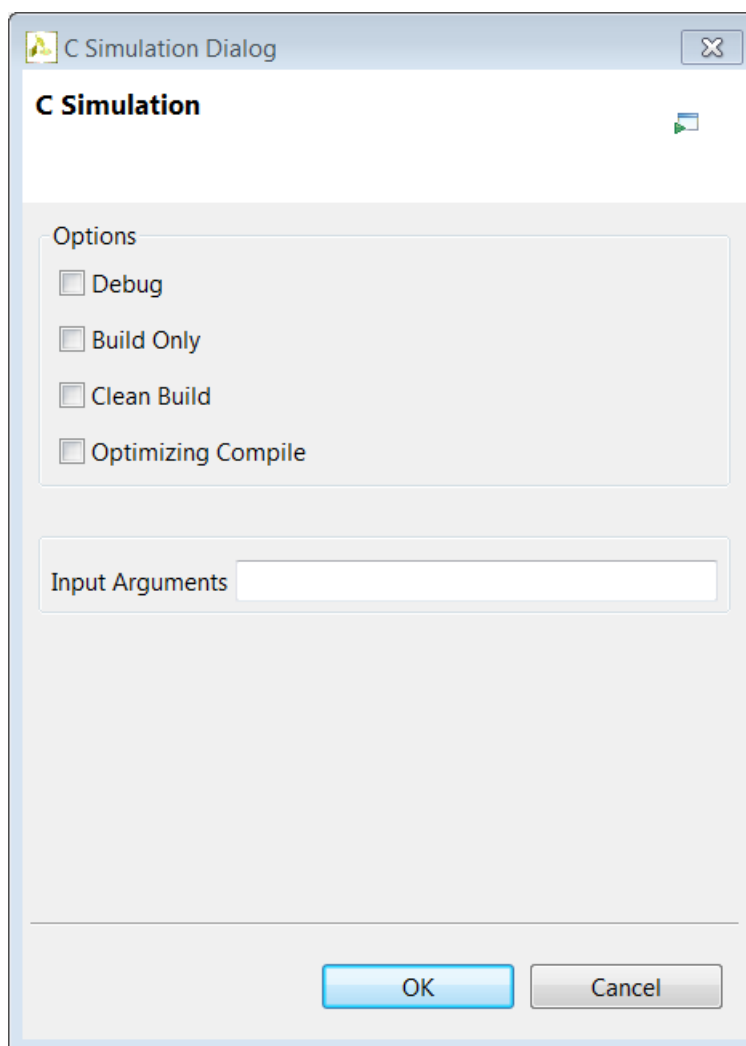

Figure 36: Run C Simulation Dialog box
2. Click the **Run C Simulation** toolbar button to open the C Simulation Dialog box, shown in Figure 36.